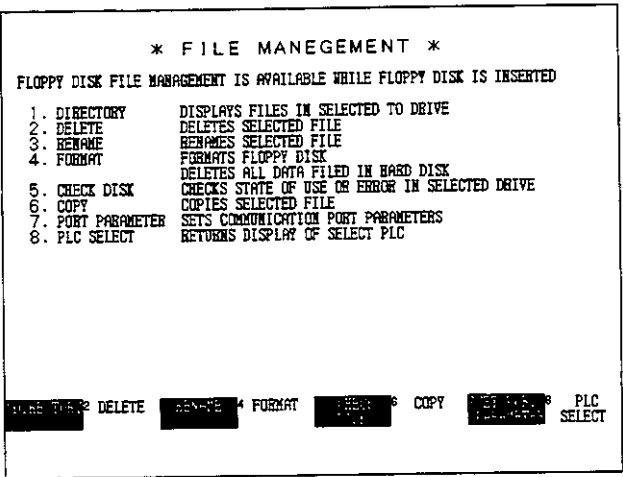
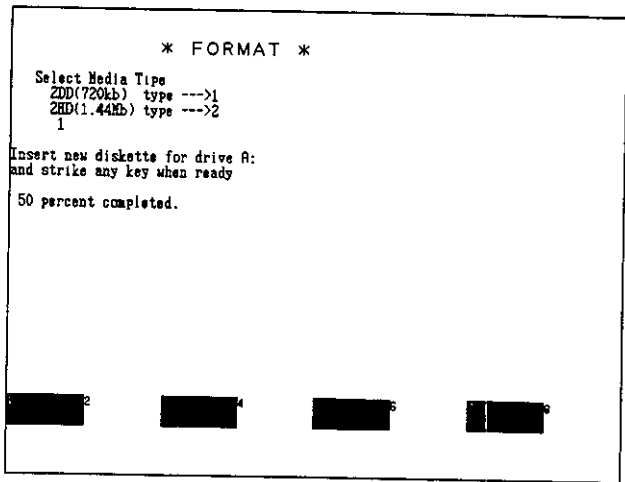

Figure 6.362
Figure 6.365
(2) To format a hard disk, select Hard Disk.
(3) When "N" is input at the screen shown in *Figure 6.365*, Previous Menu will be displayed. If Previous Menu is selected, the screen will return to the File Management Menu shown in *Figure 6.362*.
- (4) Formatting completely destroys all the data on the disk. Use Delete to delete files from a disk that has already been formatted.